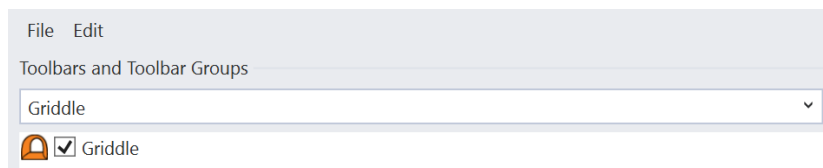

Figure 2: Activating the *Griddle 3.0* Toolbar in *Rhino 8*.
2. Click on the drop-down menu and select *Griddle*. Click the check box to activate the toolbar. This is shown below in Figure 2.